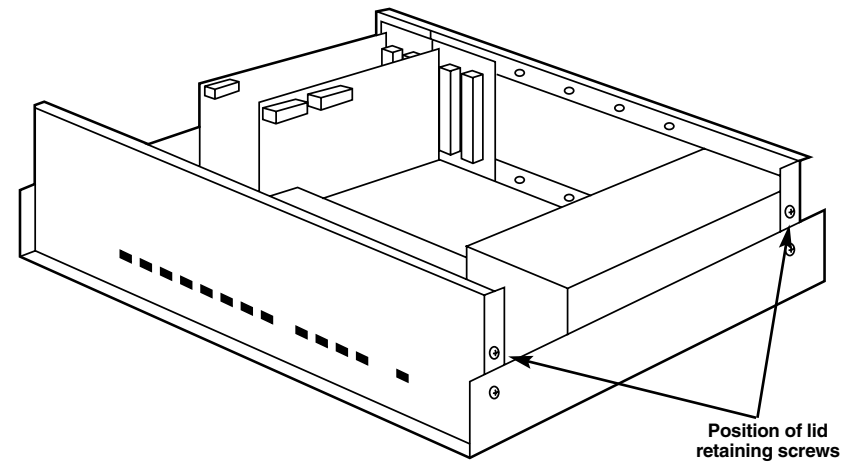

Figure 3-2. Fitting Port Modules.
To fit memory and port modules, you will need to remove the lid of your Modular Smart Switch. To do this, remove the four retaining screws holding the lid in place (see **Figure 3-2**) and lift the lid away.
3. Insert the modules as shown in **Figure 3-2**.